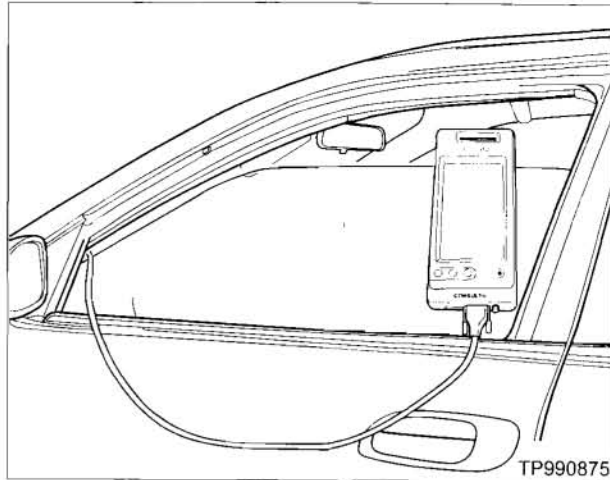

Figure A13
16. Roll down the driver's window part way, exit the vehicle, close the door, and hang the CONSULT-II unit on the outside of the window (see Figure A13).